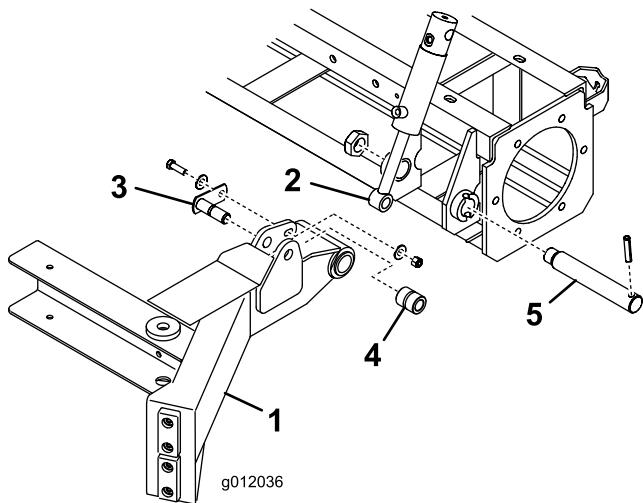

Figure 9
1. Mount left lift arm assembly to frame with lift arm pin and nut previously removed (Figure 9). Torque the nut to 60–70 ft-lb.
2. Mount cylinder end to lift arm with cylinder pin, spacer (GM 4100 only), 3/8 x 1-1/4 inch screw, .406 x .813 flatwasher and 3/8 flange locknut. (Figure 9). Torque to 27–33 ft-lb. Spacer to be positioned between lift arm plates and on cylinder pin when installed in cylinder end.